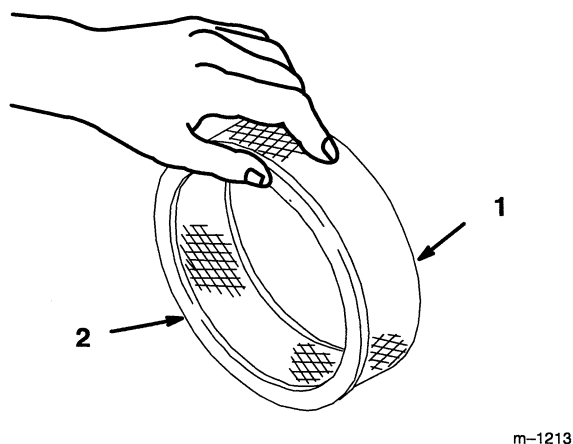

Figure 17
- A. Lightly tap the element on a flat surface to remove dust and dirt (Fig. 17).